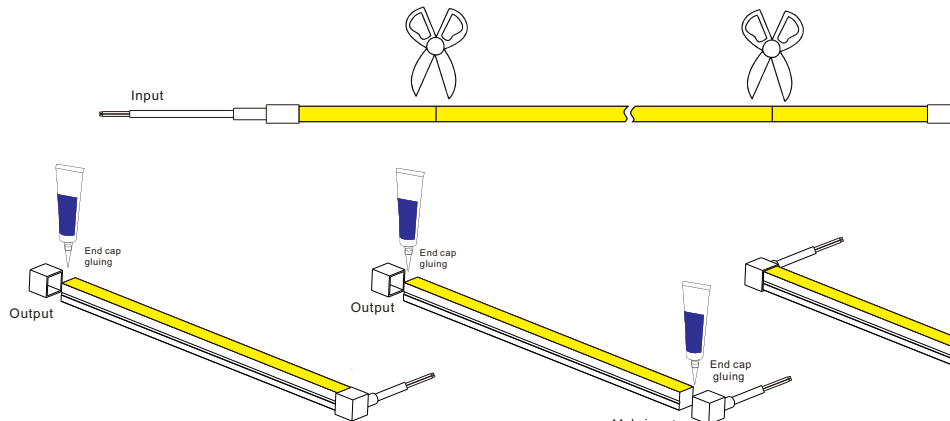

Figure 1
1. The cut output end is glued and plugged with a non hole end cap (Fig. 1);